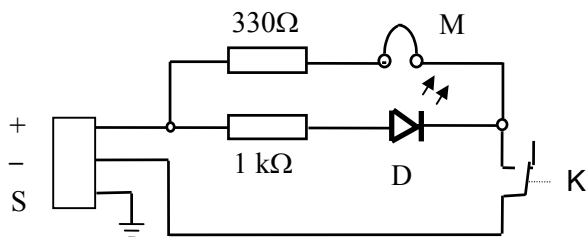

Fig.1
- 2.2. Manual call point's electrical resistance in active state - **see Fig.1.**